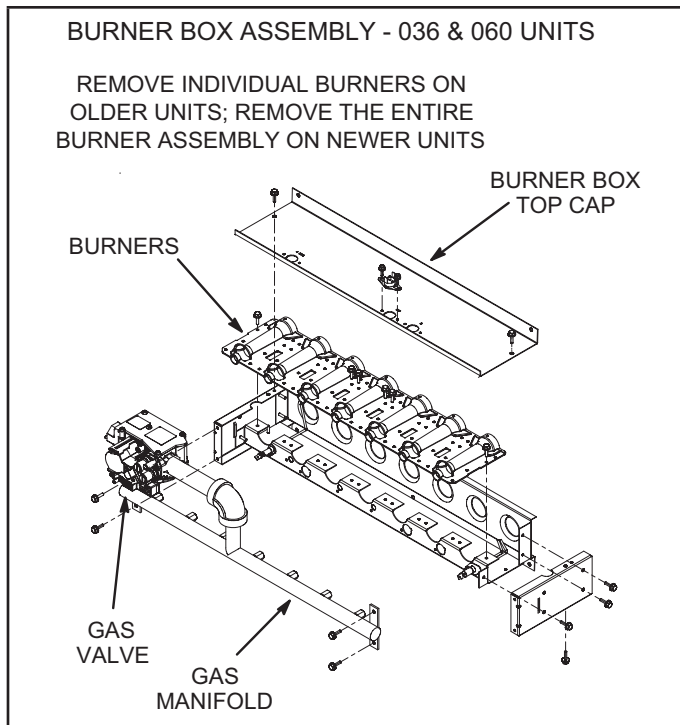
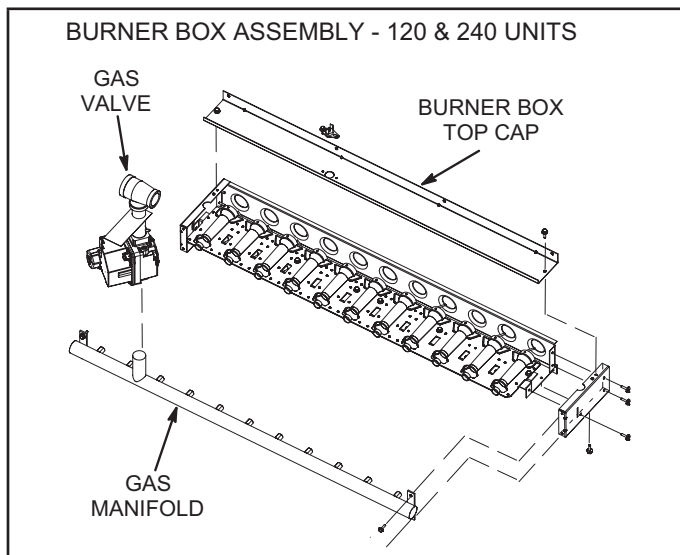

FIGURE 58
FIGURE 59
- 4 - Remove and retain two screws securing burners to burner support and lift the individual burners or the entire burner assembly from the orifices. See FIGURE 58 for 036 & 060 units and FIGURE 59 for 120, 240 units. Clean burners as necessary.